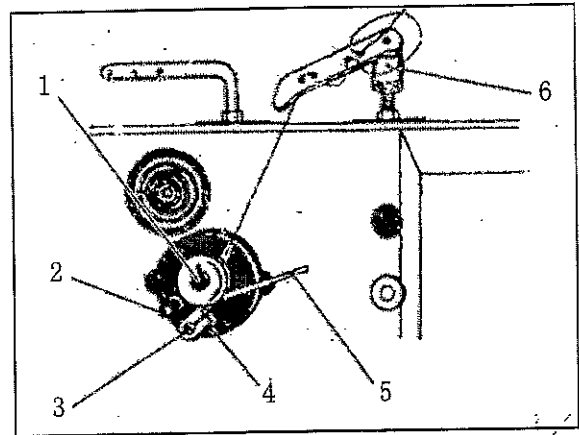

Fig.5
14. Wind the bobbin(Fig.5)
1) Inside winder (Fig.5)
27. The needle punches into the center of the slot of the throat plate position adjustment (fig.5)